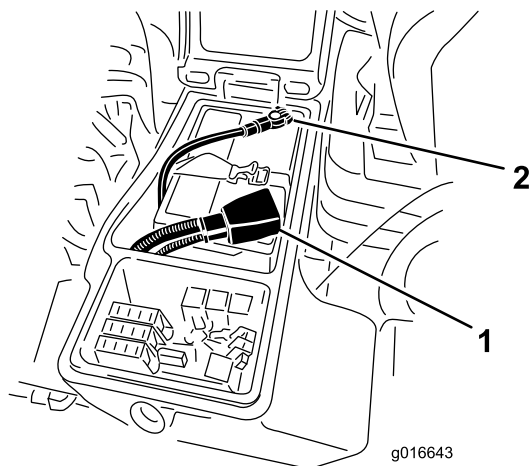

Figure 81
4. Install the positive cable (red) to the positive (+) terminal and the negative cable (black) to the negative (-) terminal of the battery (Figure 81). Secure cables to posts with capscrews and nuts. Make sure that the positive (+) terminal is all of the way onto the post and the cable is positioned snug to the battery. The cable must not contact the battery cover. Slide the rubber boot over the positive terminal to prevent a possible short from occurring.